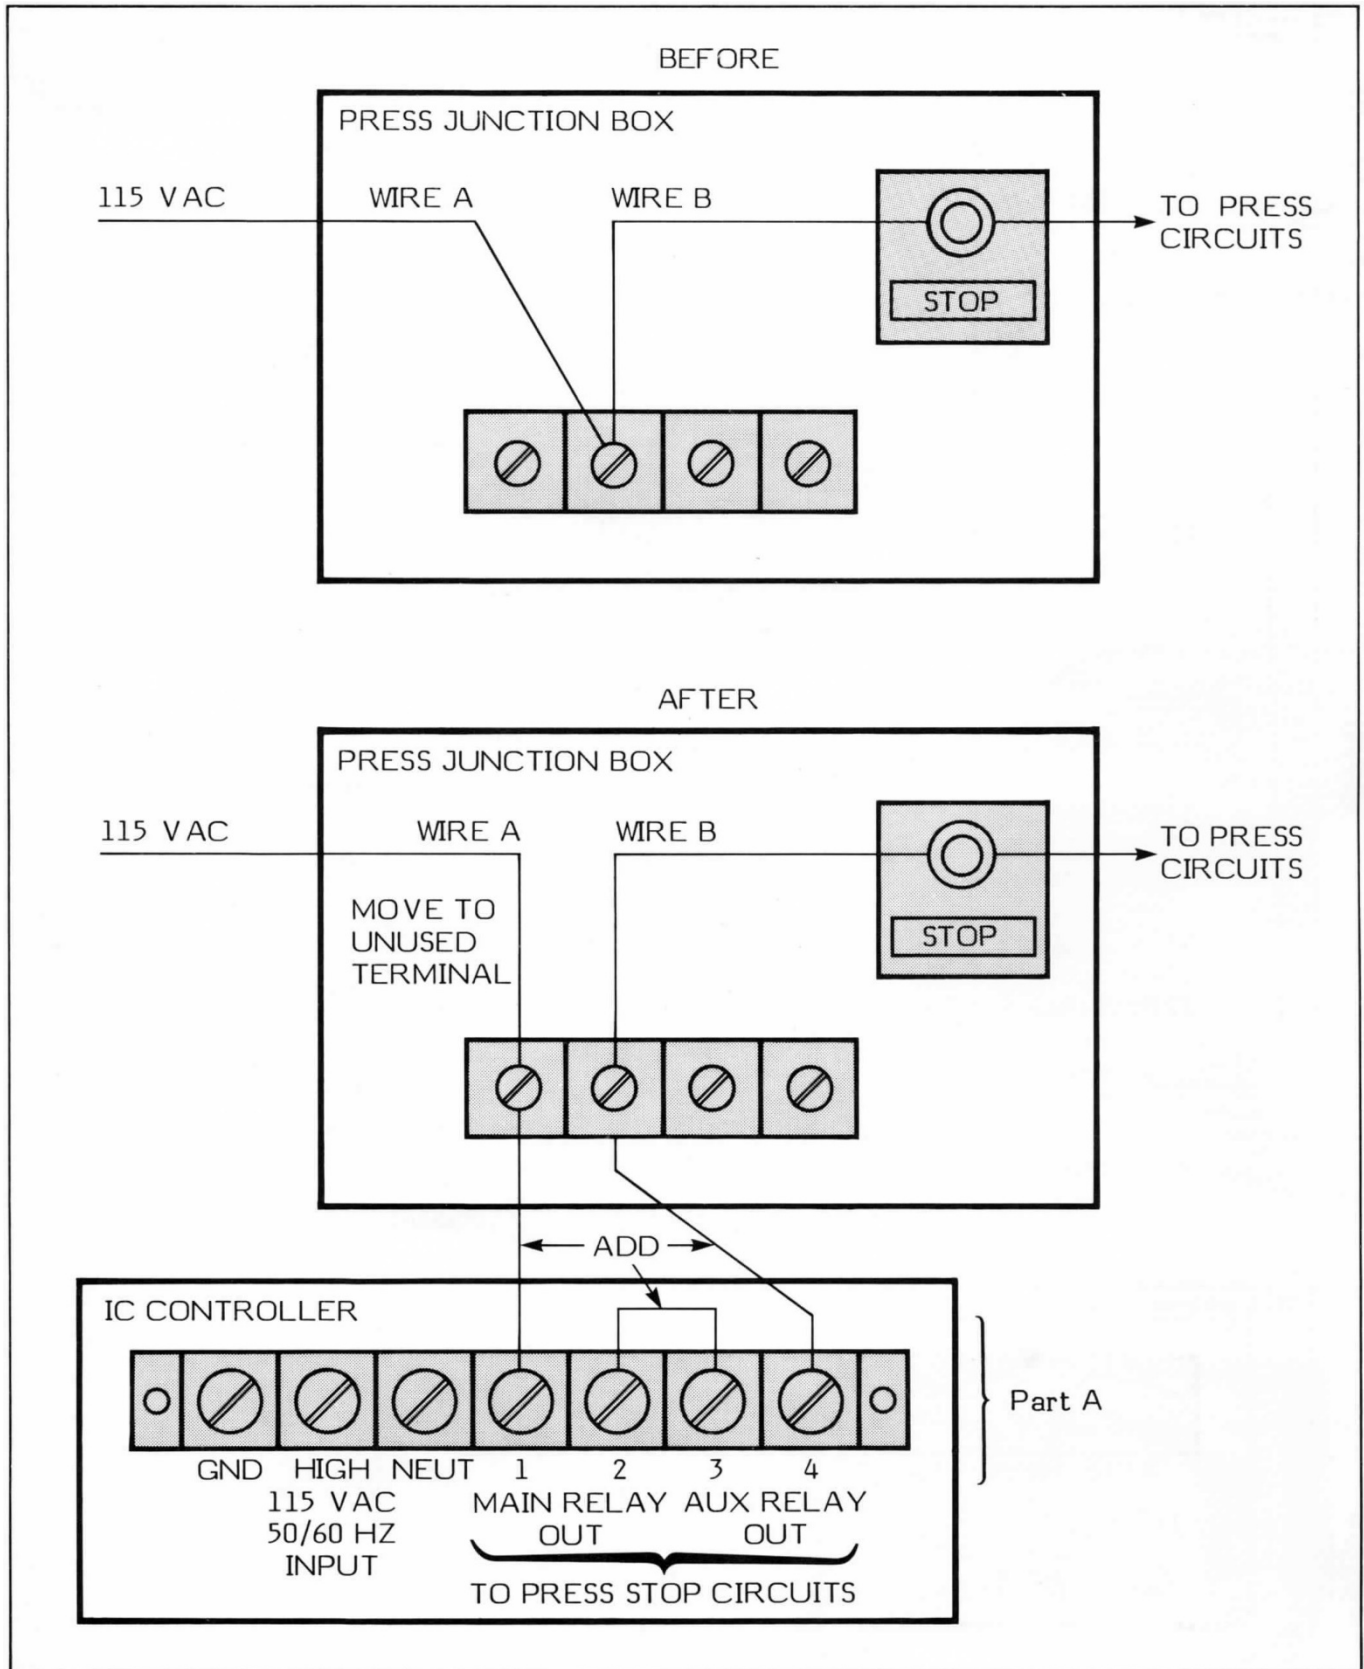

Figure 30. Single Stop Circuit Wiring.
Two knock-out plugs are located on the bottom left end of the IC Controller. They provide access to the Stop Circuits' terminal board and the Input/Control board (see Figures 30, 31, and 32). To eliminate electrical noise and interference, it is necessary that all input power and stop circuit connections be brought to the IC Controller in a single electrical conduit and that all low-voltage signal connections to sensors use separate conduit.
4. Refer to Figures 30 and 31, and wire the external Stop circuits for the press in one of the two configurations shown.
Auxiliary Stop may result in either Top-Stop or Emergency Stop; this depends on the interface selected (see Figures 30 and 31).